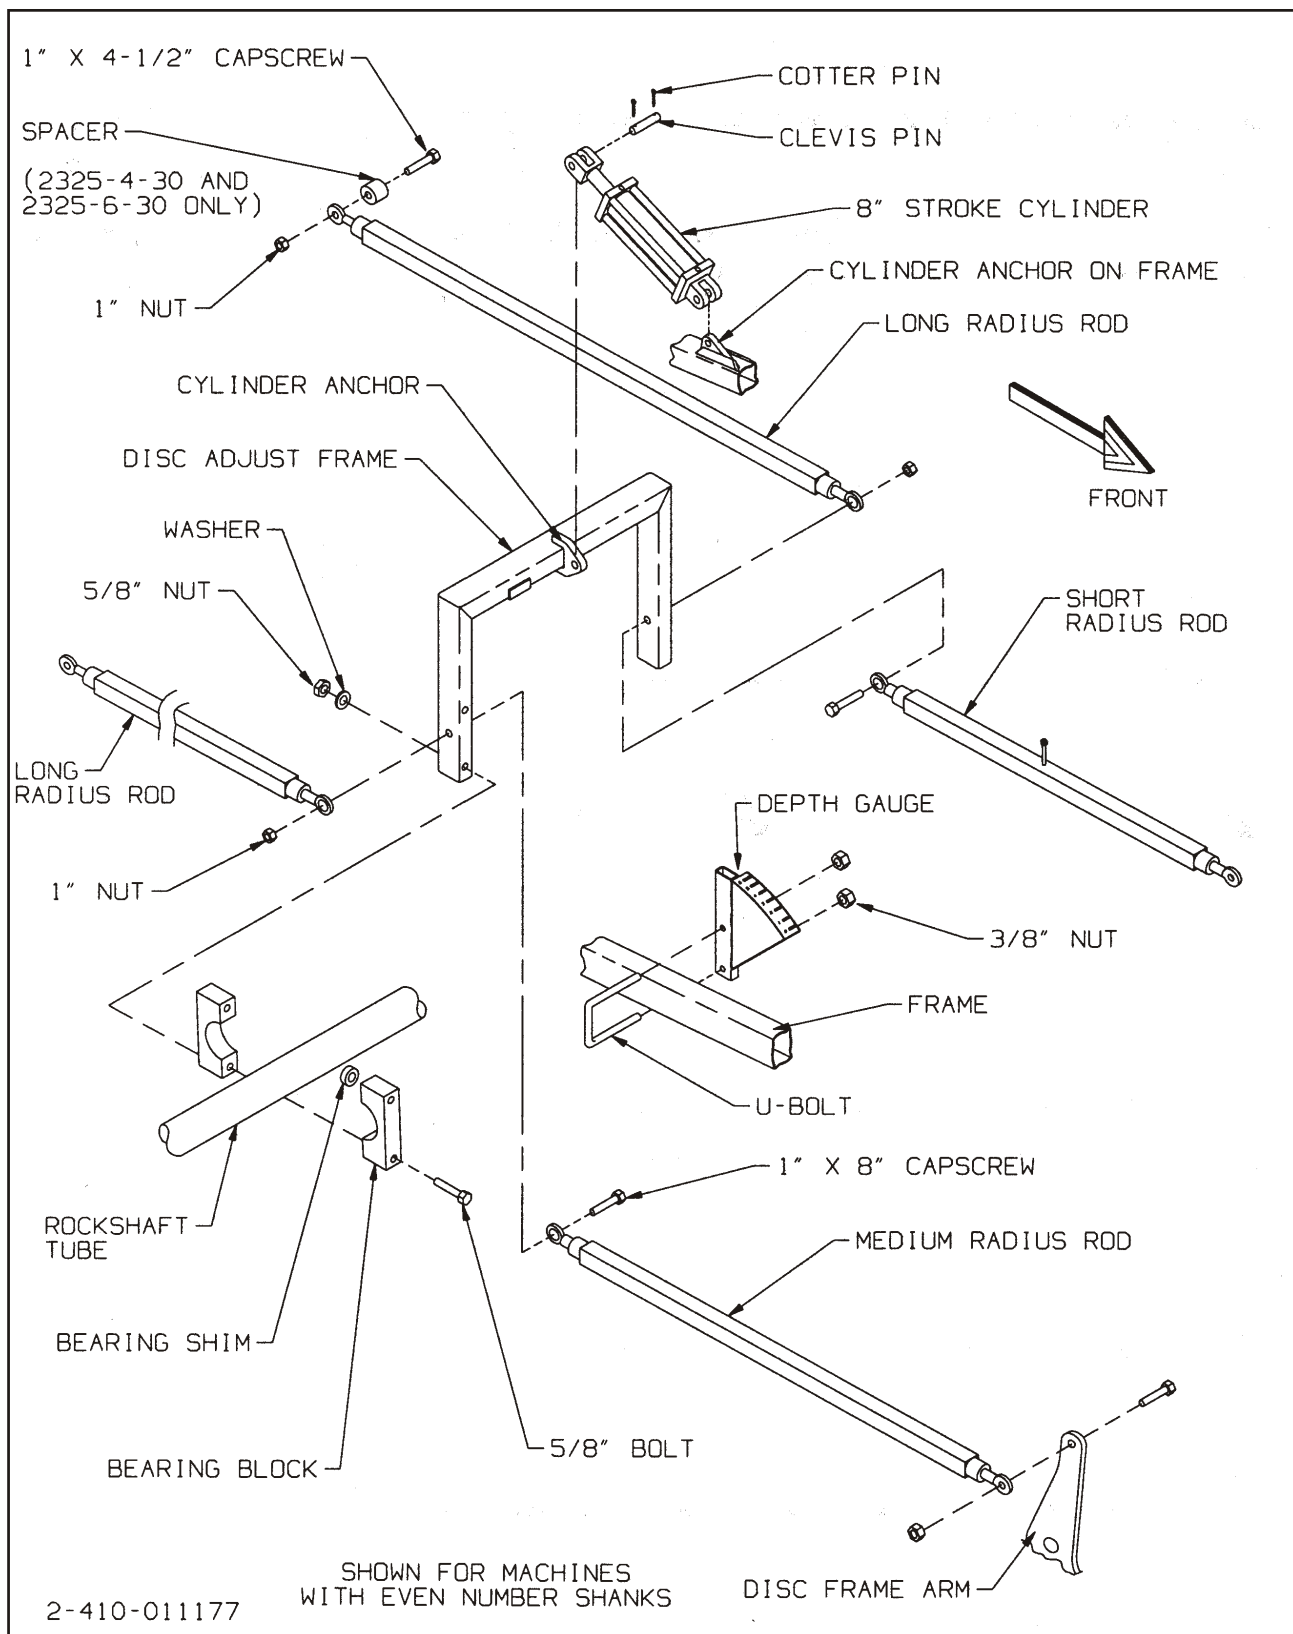

Figure 3-11 Disc Gang Hydraulic Installation
- 3-9.1 Assemble the bearing blocks onto the gauge wheel rockshaft tube and install the disc adjust frame using 5/8" x 11-1/2" bolts and nuts on the 2225 or 5/8" x 14-1/4" bolts and nuts on the 2227. (**See Figure 3-11**).
- a. Install the adjustable end of the (2) long radius rods to the inside of the disc adjust frame with 1" x 8" cap screws, nuts. Install the fixed end to the inside of the rear disc frame arm with 1"x 4-1/2" cap screws and nuts.
(See Figure 3-11).